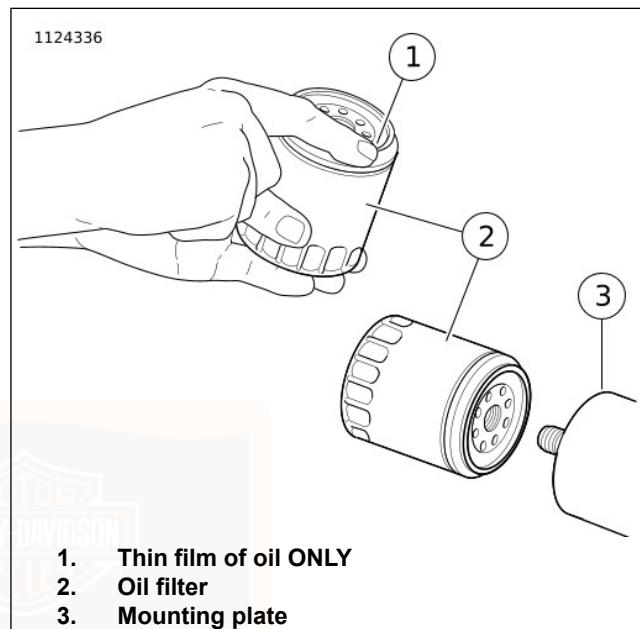

Figure 41. Applying Thin Oil Film
7. See Figure 41. Lubricate gasket with clean engine oil. Install **new** oil filter on filter mount. Hand-tighten oil filter one-half to three-quarters of a turn after gasket first contacts filter mounting surface. Do NOT use oil filter wrench for installation.